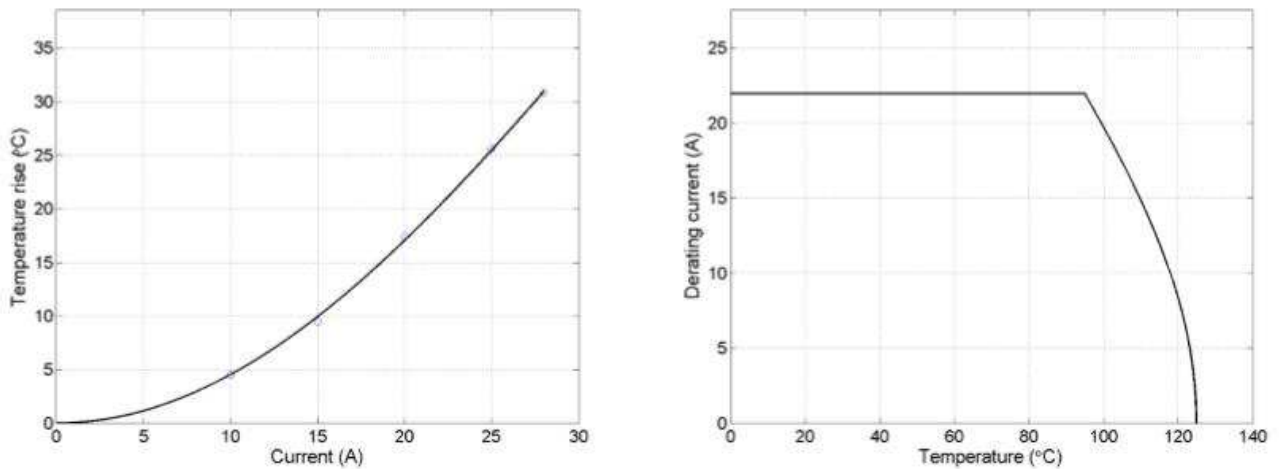

Figure 1- typical derating curve of 2238171-3 AWG12#
2.1 Refer to figure 1 for the curve of 2238171-3 (Faston) with AWG12#.